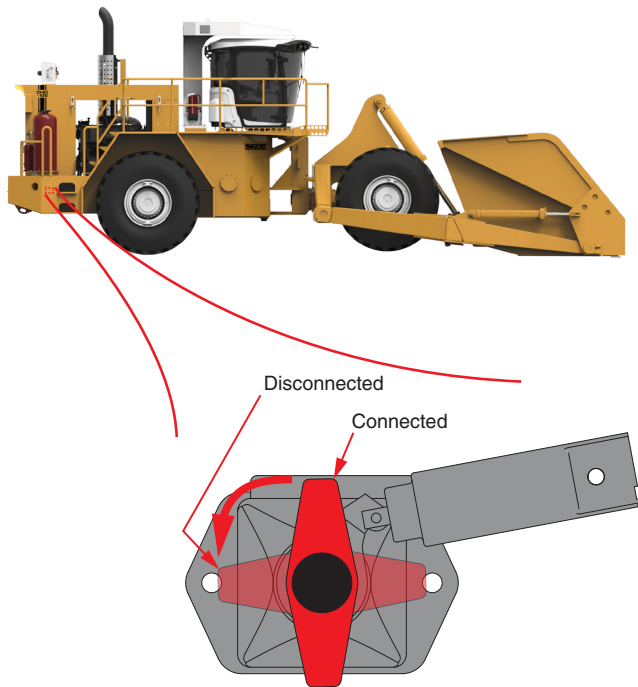

Figure 5-1-2 Battery Disconnect Switch Location
Always set the battery disconnect switch to "OFF" before performing any welding. The battery disconnect switch is located on the right side of the machine, accessed inside the second step (see Figure 5-1-2). Turn the switch counterclockwise to disconnect the batteries.
- Set Battery Disconnect Switch to OFF (see Figure 5-1-2).